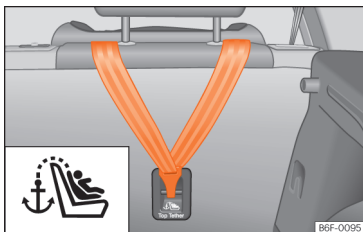

Fig. 40 Rear part of the rear seats: securing rings for the Top Tether strap.
- Slide the strap and secure it properly with the anchor on the rear seat backrest >>> **Fig. 40**.